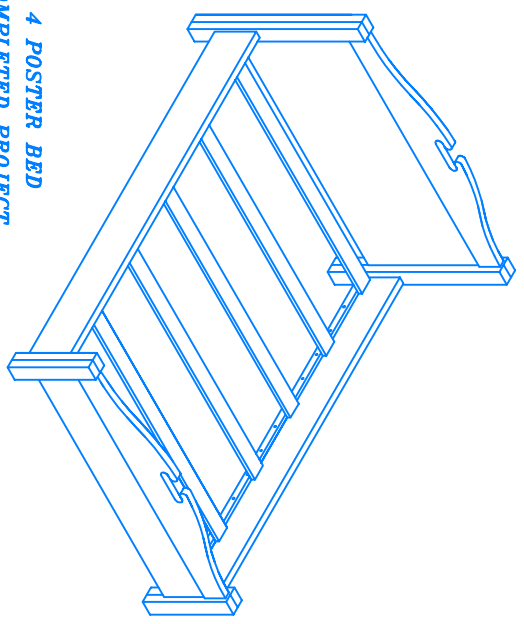

FIGURE 6
- 6) Glue two pieces E together to form a side rail. Attach a piece J (solid wood edging) by gluing to top of piece E. Repeat for second side rail. Attach pieces G to pieces E with the bottom edge of G flush with the bottom edge of E, pre-drill with a 1/8" drill bit, glue and screw the rail with 1/2" long screws. Stand the headboard and footboard up, supported, about 90° apart. Fit in pieces E and, using a square, ensure the bed is square. Carefully, without disturbing the angles, mark the location on E where the rail hardware will attach. Remove pieces E from the bed, and attach the hardware using manufacturer's hardware, ensuring there is enough space to facilitate easy removal and replacement of the rail (Details C and D). Re-insert pieces E. Ensure the bed remains square while you attach these rails. Lay the pieces H in the bed as shown (Fig 6). DO NOT GLUE OR NAIL THESE PIECES IN, THEY REMAIN LOOSE. Attach rail glides to the bottom of bed posts.